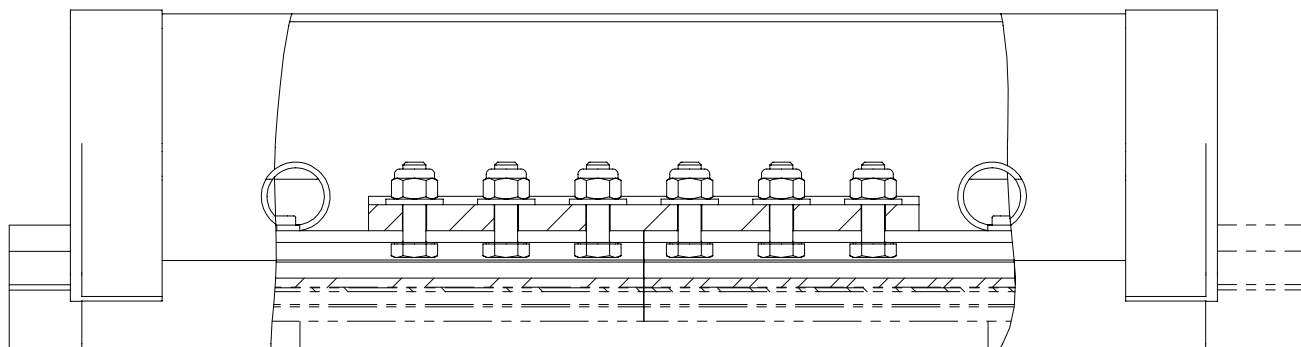

Figure 9-1
- An example of a completed splice assembly is shown below in **Figure 9-1**.